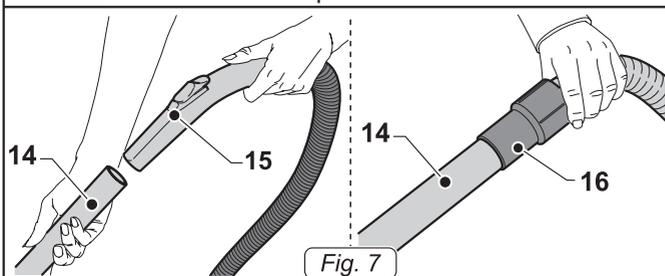

Fig. 7
- Connect the ergonomic handle (15 Fig. 7) or the hose (16 Fig. 7) depending on the model, with the extension (14 Fig. 7).
- Merge the ergonomic handle (15 Fig. 7) or hose (16 Fig. 7) depending on the model, with the extension (14 Fig. 7).